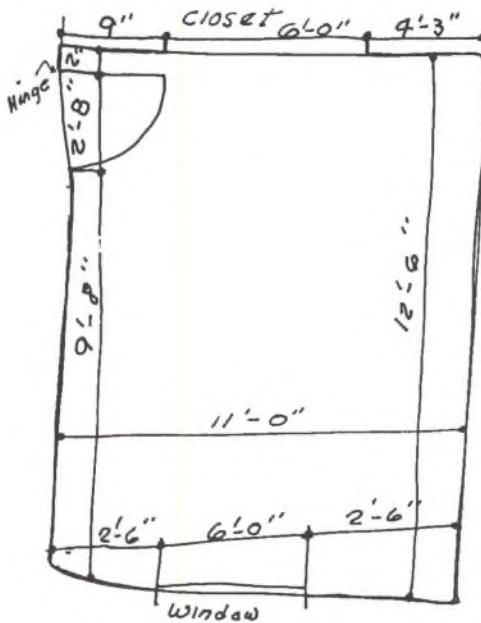

Fig 6.1 A rough measurement sketch of a room.
1. On a piece of scratch paper, make a fairly large, rough sketch of the room you have selected to draw. It is necessary to use only a single line, indicating the inside wall, as in Fig. 6.1.
3. Using a yardstick or a pocket tape measure placed on the floor, start measuring in a corner. Measure from the corner to the first door, window, or other break in the wall. Write the measurement on your sketch. Then write down the sizes of the doors, windows, etc. Continue measuring around the room, writing the figures on the sketch as you go. Add total measurements to the sketch. (See Fig. 6.1.)
4. Check to see that you have included such things as projecting registers or any permanent fixtures. Note whether doors open into the room or out from it. Also note whether they are hinged on the left or on the right, as in Fig. 6.1.